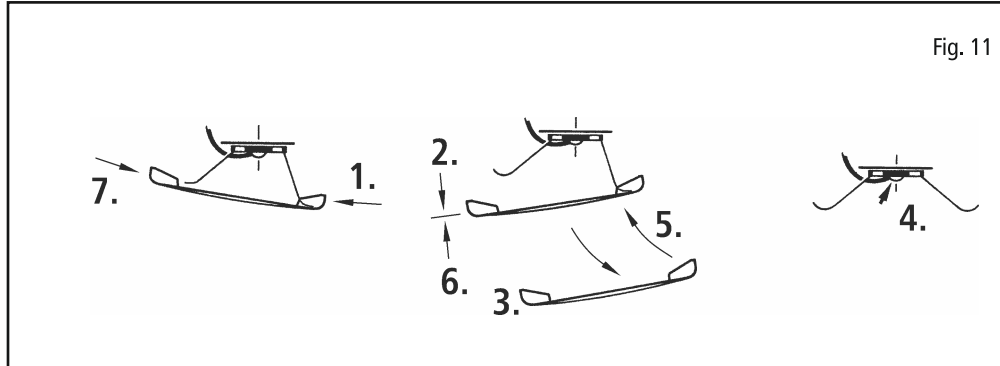

Fig. 8
2. Lubrication: Apply **tiny oil drops** to spots marked in fig. 8. Prior to lubrication dismantle locomotive (fig. 3). We recommend using item no **10906, Roco oiler**. For lubrication the gear-parts (e.g. cog-wheels, worm - fig. 7) we would recommend our Roco **special grease** (item No. **10905**).